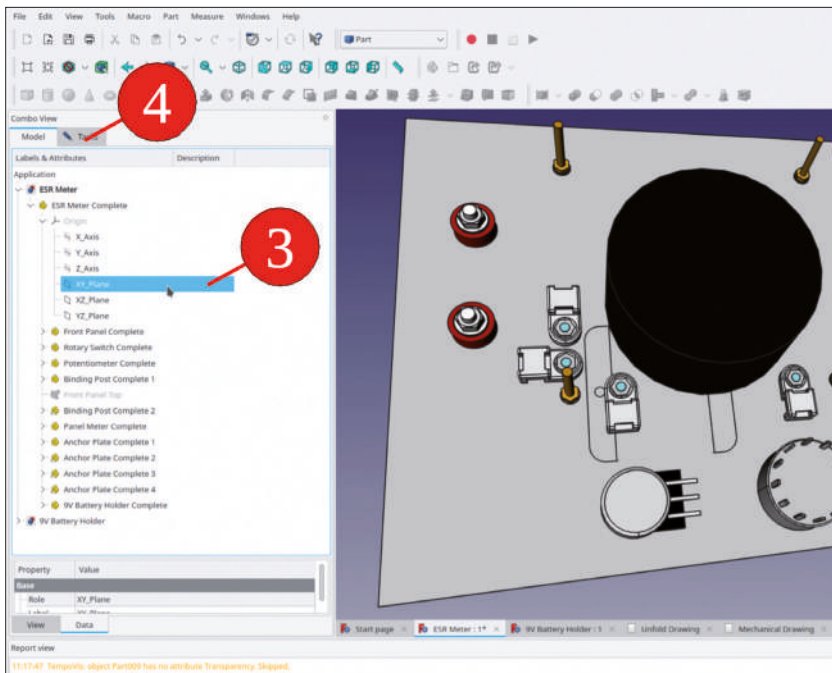

Figure 7-53
18. In the tree view, select the XY plane of 'ESR Meter Complete' (Figure 7-53).